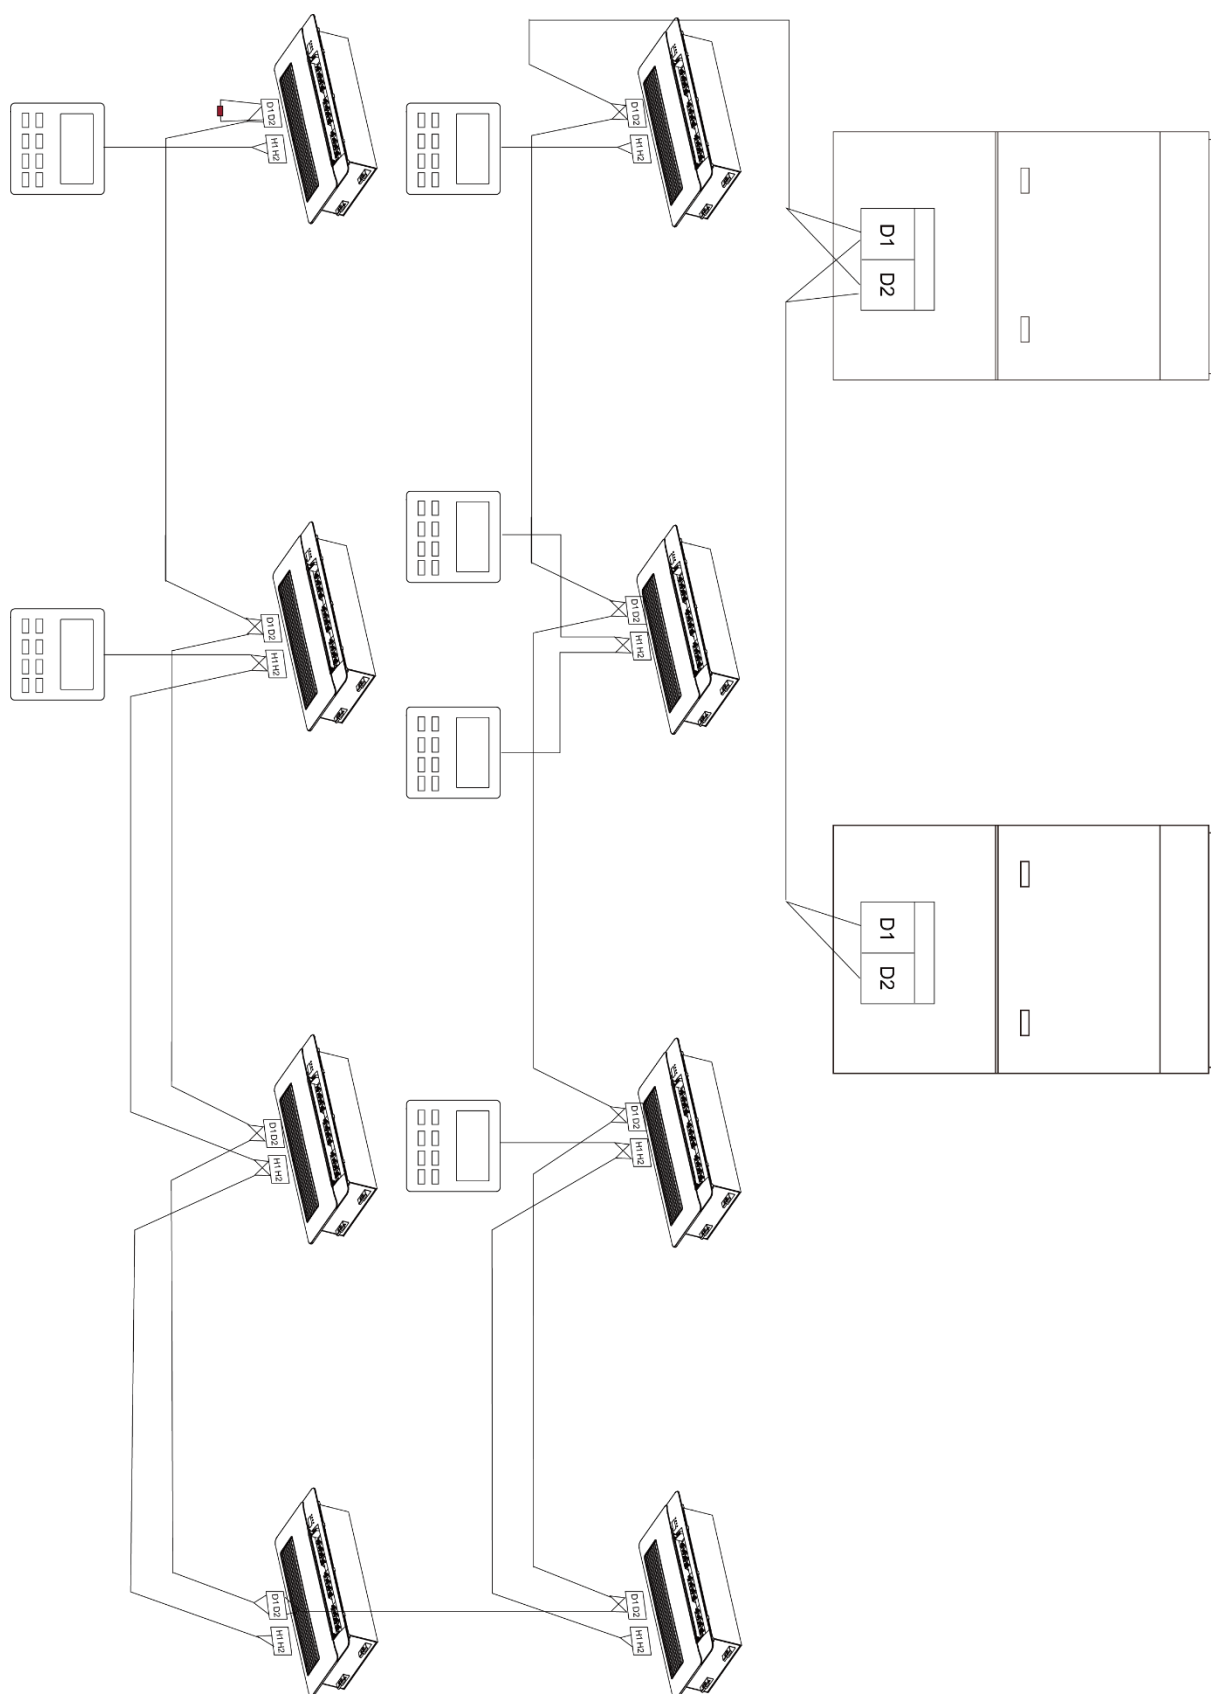

Fig. 5.5.1
- (1) Communication wire of indoor unit and outdoor unit (or indoor unit) is connected to D1, D2.
- (2) Wired controller is connected to H1, H2.
- (3) One indoor unit can connect two wired controllers that must be set as master one and slave one.
- (4) One wired controller can control 16 indoor units in maximum at the same time. (as shown in fig.5.5.1)